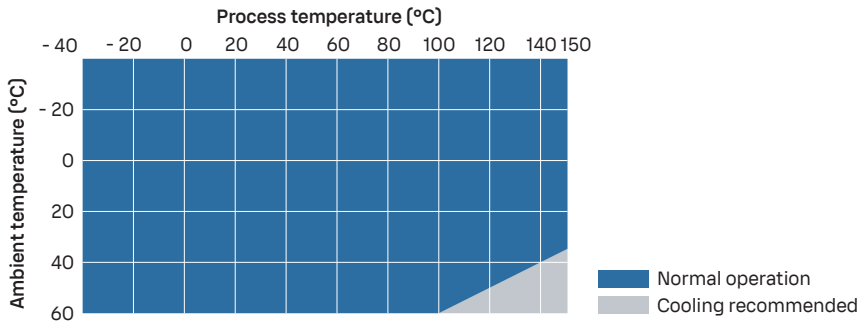

Figure 2 Process temperature and recommended cooling
- Use additional cooling according to Figure 2 \(page 12\). Notice that the values in the figure are indicative. Required cooling depends on the installation location and environment.